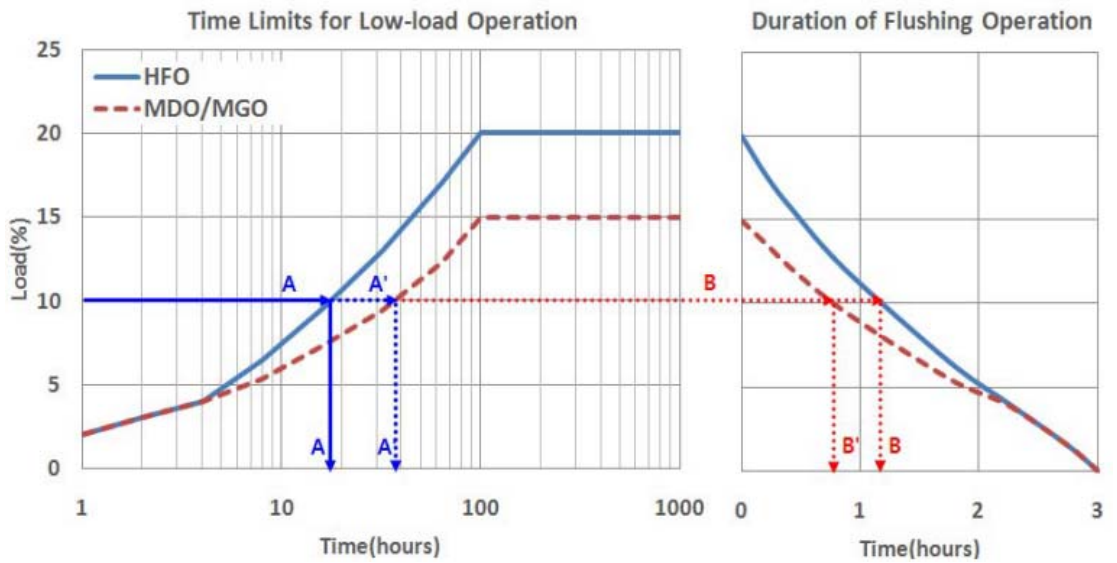

Figure 5.2 Time limits for low load operation
- ✓ Below 15 % load operation : load up over 70 % load at every limited time at corresponding load in Figure 5.2
- ✓ Below 20 % load operation : load up over 70 % load at every limited time at corresponding load in Figure 5.2
Duration of flushing operation (See 'Figure 5.2')